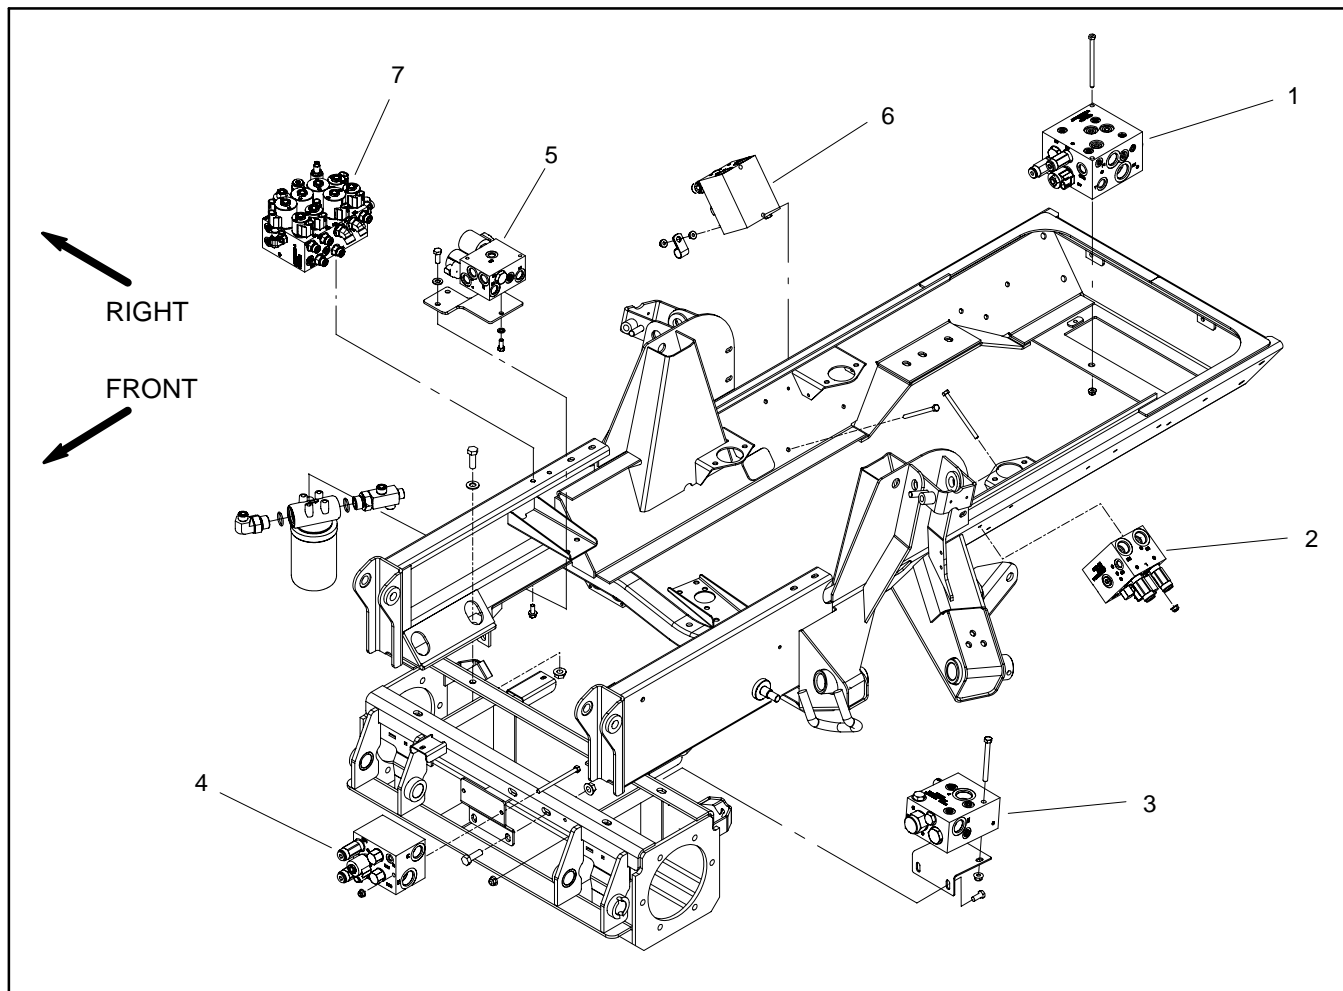

Figure 45
2. Locate hydraulic valve solenoid coil to be tested (Fig. 45). Disconnect wire harness connector from coil.